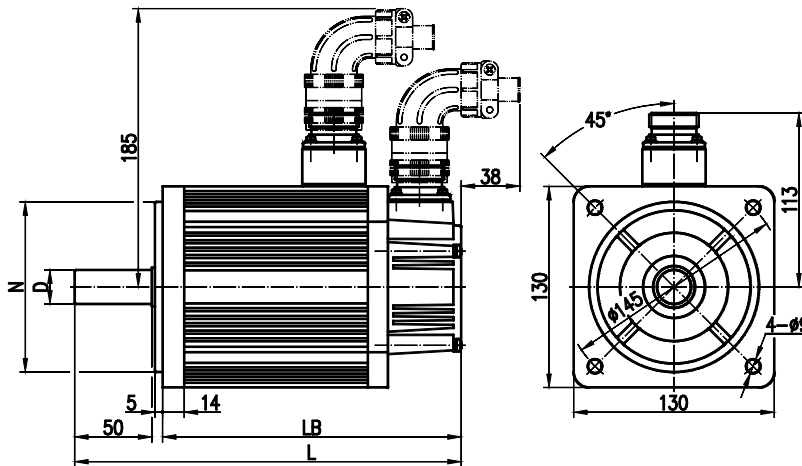

Fig. 5
5.5 Refer to figure 5 and list 11 about 130SJTG series motor overall installation dimension.
9.2 When the motor cables are arranged improperly, it may result the liquid, such as the cutting fluid, gets together at the connector along the cable lead-in, further the motor malfunction. Therefore, the motor connector side should try to get down or along the horizontal direction during installation, which is shown as figure 5.